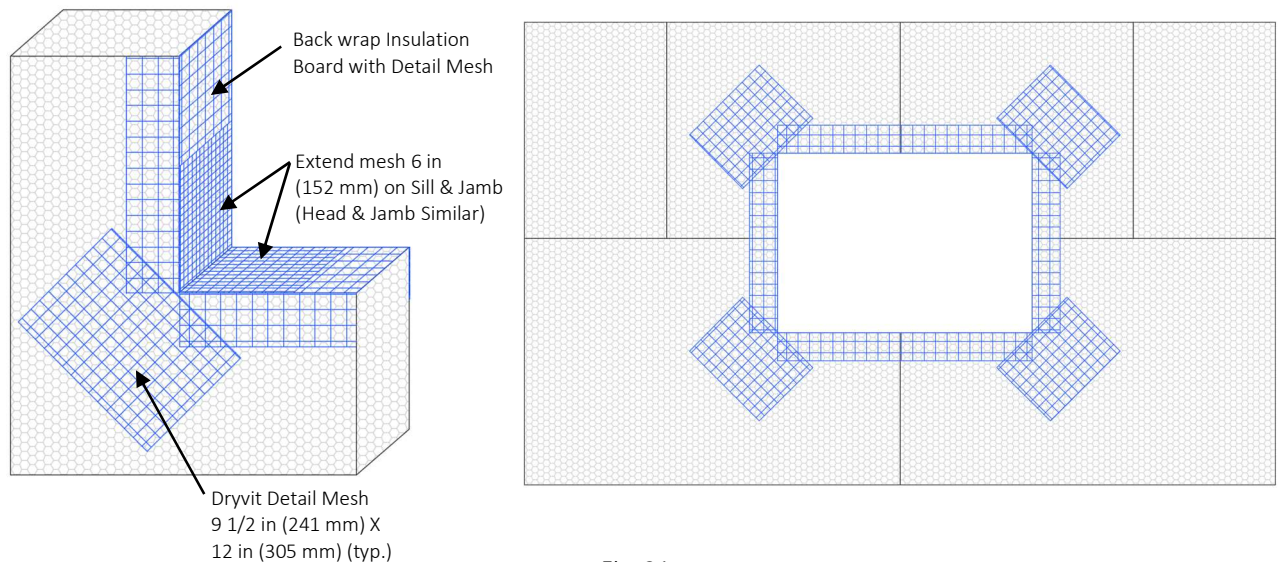

Fig. 31
17. Corners of all openings such as windows, doors, mechanical equipment and all penetrations shall be reinforced with Detail Mesh placed diagonally to the opening as illustrated in **Figure 31**.